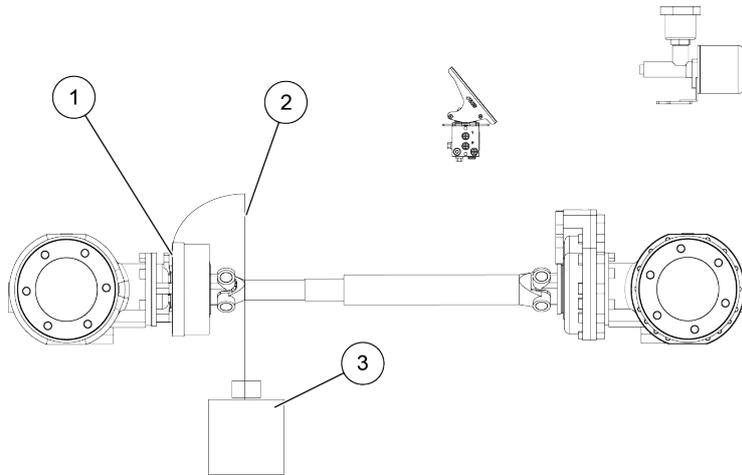

Figure 6-29 Replacing brake oil
Step 3: A person under loader, loosen oil plug (1), and install two ends of transparent hose (2) in oil drain and container(3), as shown in Figure 6-29;
(1) Oil plug (2) Transparent hose (3) Container
Step 4: Another person repeatedly steps on brake pedal in cab, brake fluid will flow out from oil drain; At the same time, people under loader add new brake fluid to brake fluid tank (4), and tighten oil plug (1) after clear fluid flow out of oil drain, as shown in Figure 6-29 and 6-30;